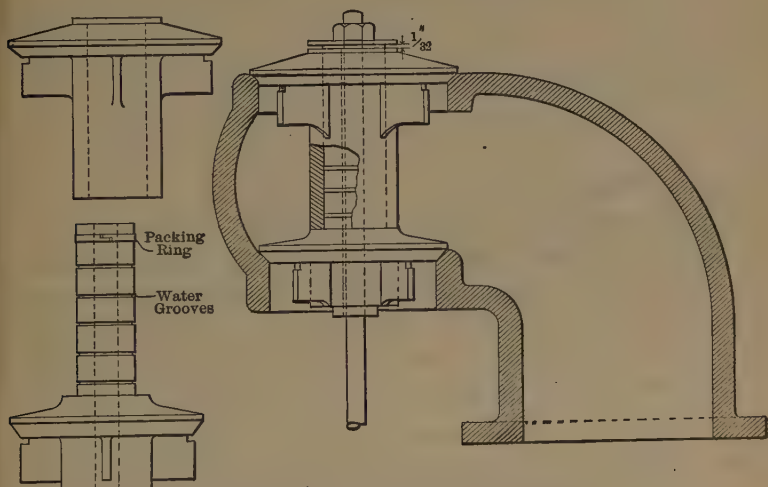

Fig. 106. The Chambers Throttle.
A. As shown in Fig. 106, the two seats are separate, fitting together as shown and acting as a solid valve, while allowing for expansion and adjustment. The projection on lower seat extends $1\frac{1}{32}$ inch through the upper seat, and the movement is limited to this amount by a washer on the stem, as shown.